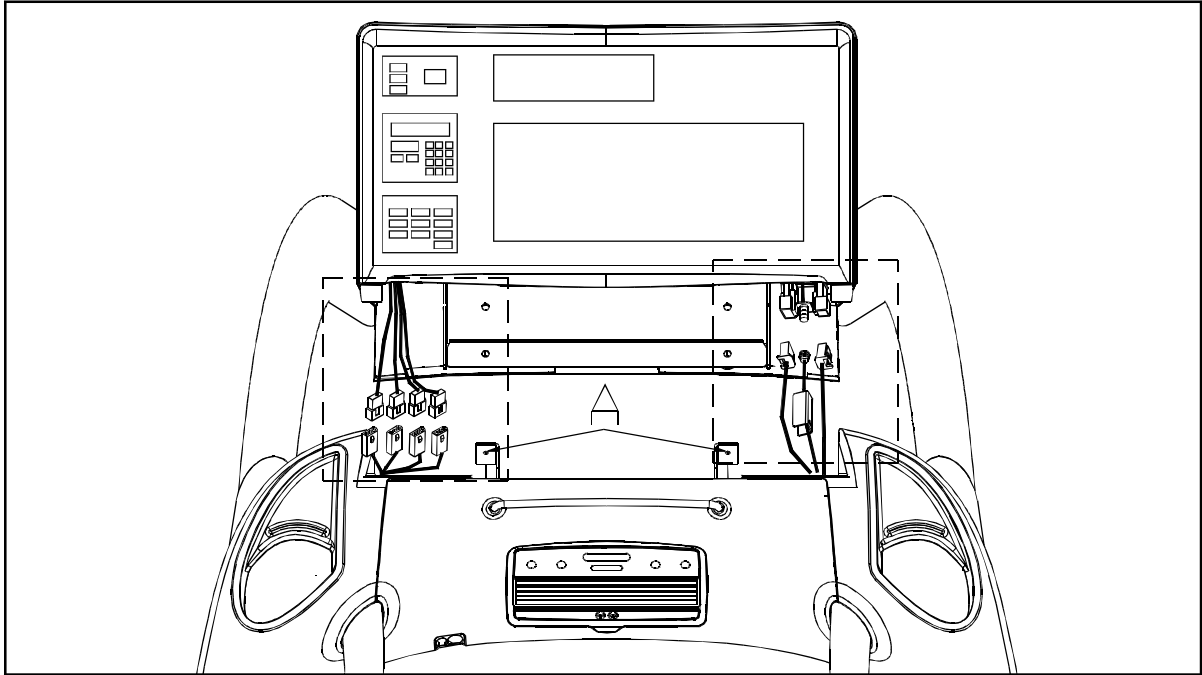

Fig.6-1
**STEP 1.** Use the ALLEN WRENCH WITH THE T-SHAPED HANDLE (5 mm) to remove the four bolts from location (A) shown below. Hold the display into position and connect data cables. (See Fig. 6-1~6-3.) Use the CABLE WRENCH to secure the cable.